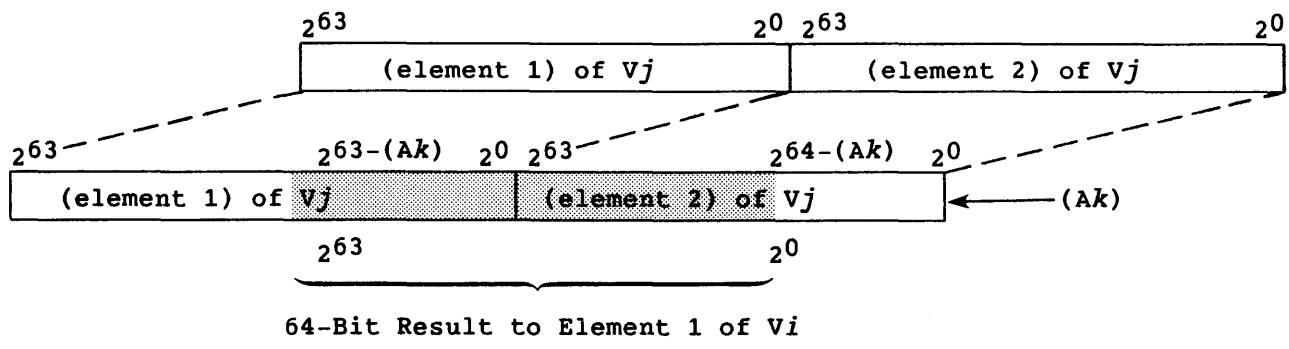

Figure 5-8. Vector Left Double Shift, Second Element, VL Greater than 2
If (VL) is greater than 2, the operation continues by joining element 1 with element 2 and transmitting the 64-bit result to element 1 of V_i . Figure 5-8 shows this operation.